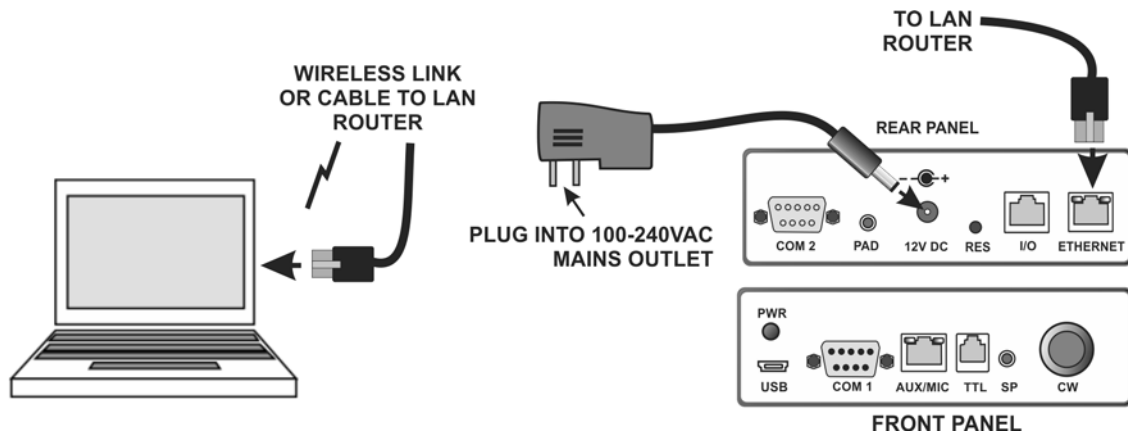

Figure 5
7. Disconnect the USB cable between and connect both the RR-1256 Local (Control) unit with the CW knob and the computer to your LAN (Figure 5). Note that the PWR light on the RR-1256 unit's front panel stops blinking and remains on, indicating communications with the router. If it continues to blink, check to ensure the cable connectors are fully inserted and that you have a good cable. You must have a steady green PWR light to proceed.